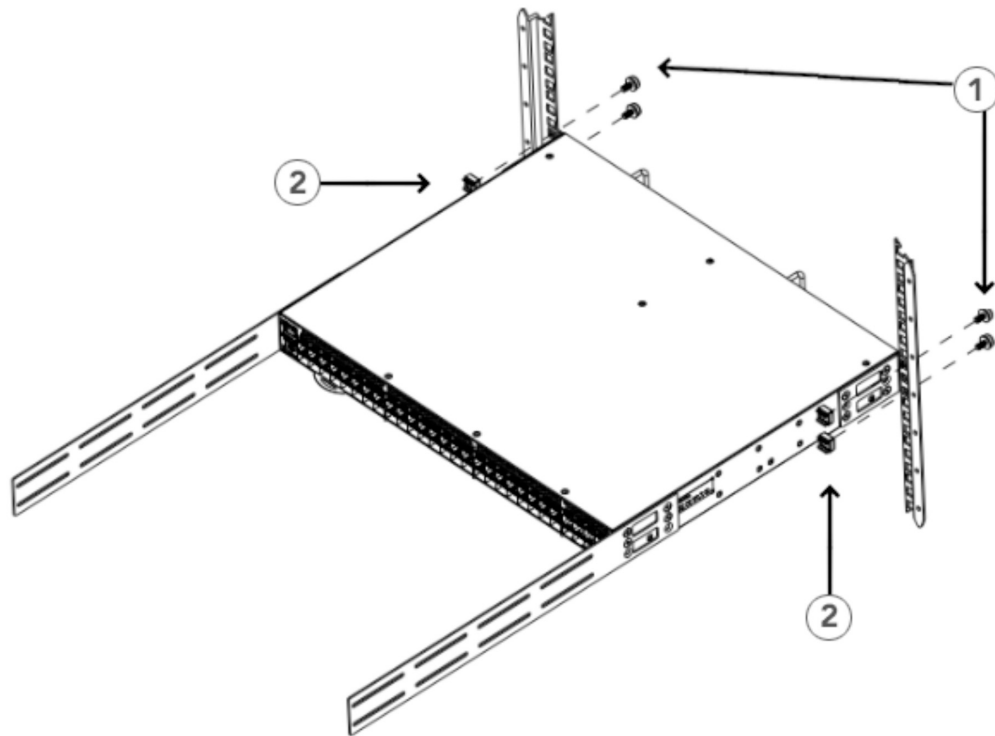

Figure 11. Positioning the Device in the Rack
1. Position the device in the rack, as shown Figure 11, providing temporary support under the device until the rail kit is secured to the rack.